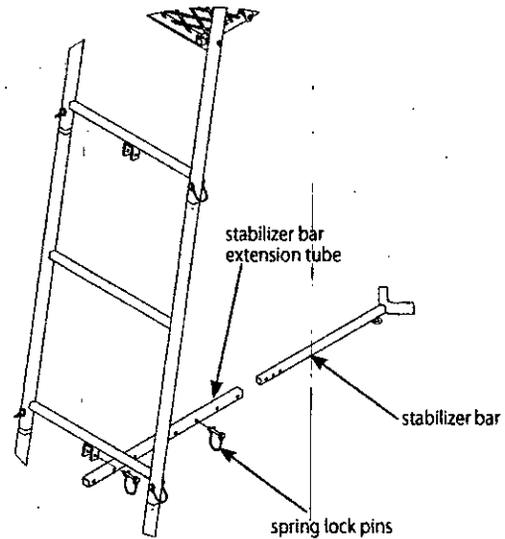

Figure 4
- a. Attach the stabilizer bar extension tube (1ML23) to the third ladder section mounting bracket using (1) provided spring lock pin. **SEE FIGURE 4.**
- b. Slide the stabilizer bar (L29) into the extension tube and attach the two pieces together using (1) provided spring lock pin. Spring lock pin must go through both the extension tube and the stabilizer bar at appropriate hole to achieve desired distance from tree. Adjustment in length may be needed when ladder is uprighted later in instructions. **SEE FIGURE 4.**